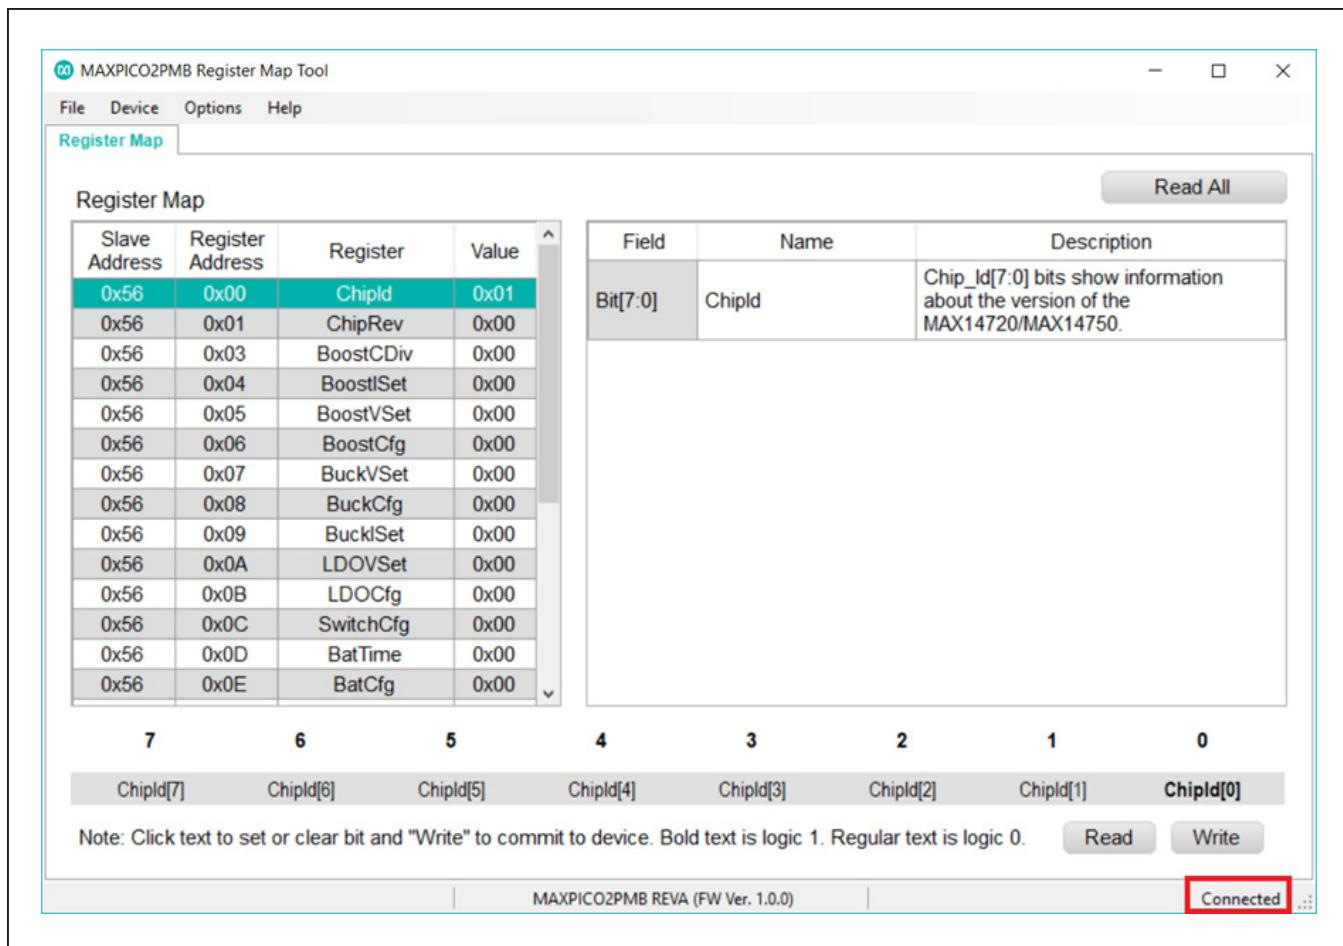

Figure 4. Regmap Populated and Status Shows Connected
- 14) Reinstall JP2 and JP16 on the MAX14750\_SYS\_EVKIT\_A and the status of the EV kit tool now show **Connected**. Upon successful connection, the device info populates in the EV kit software (See Figure 4).